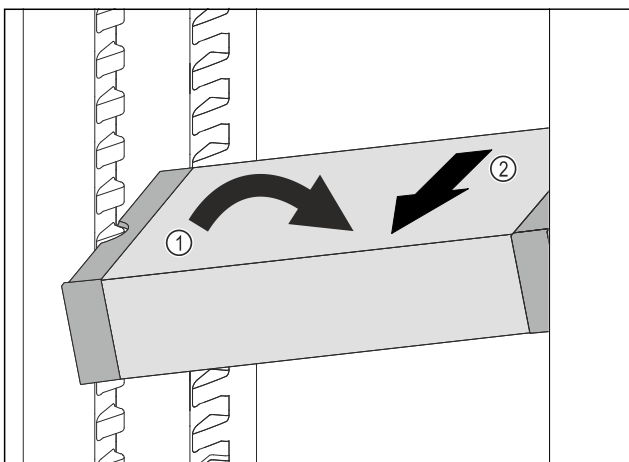

Fig. 152
- ▶ Set VarioSafe in refrigerator compartment at an angle. Fig. 152 (1)
- ▶ Take VarioSafe out to the front. Fig. 152 (2)